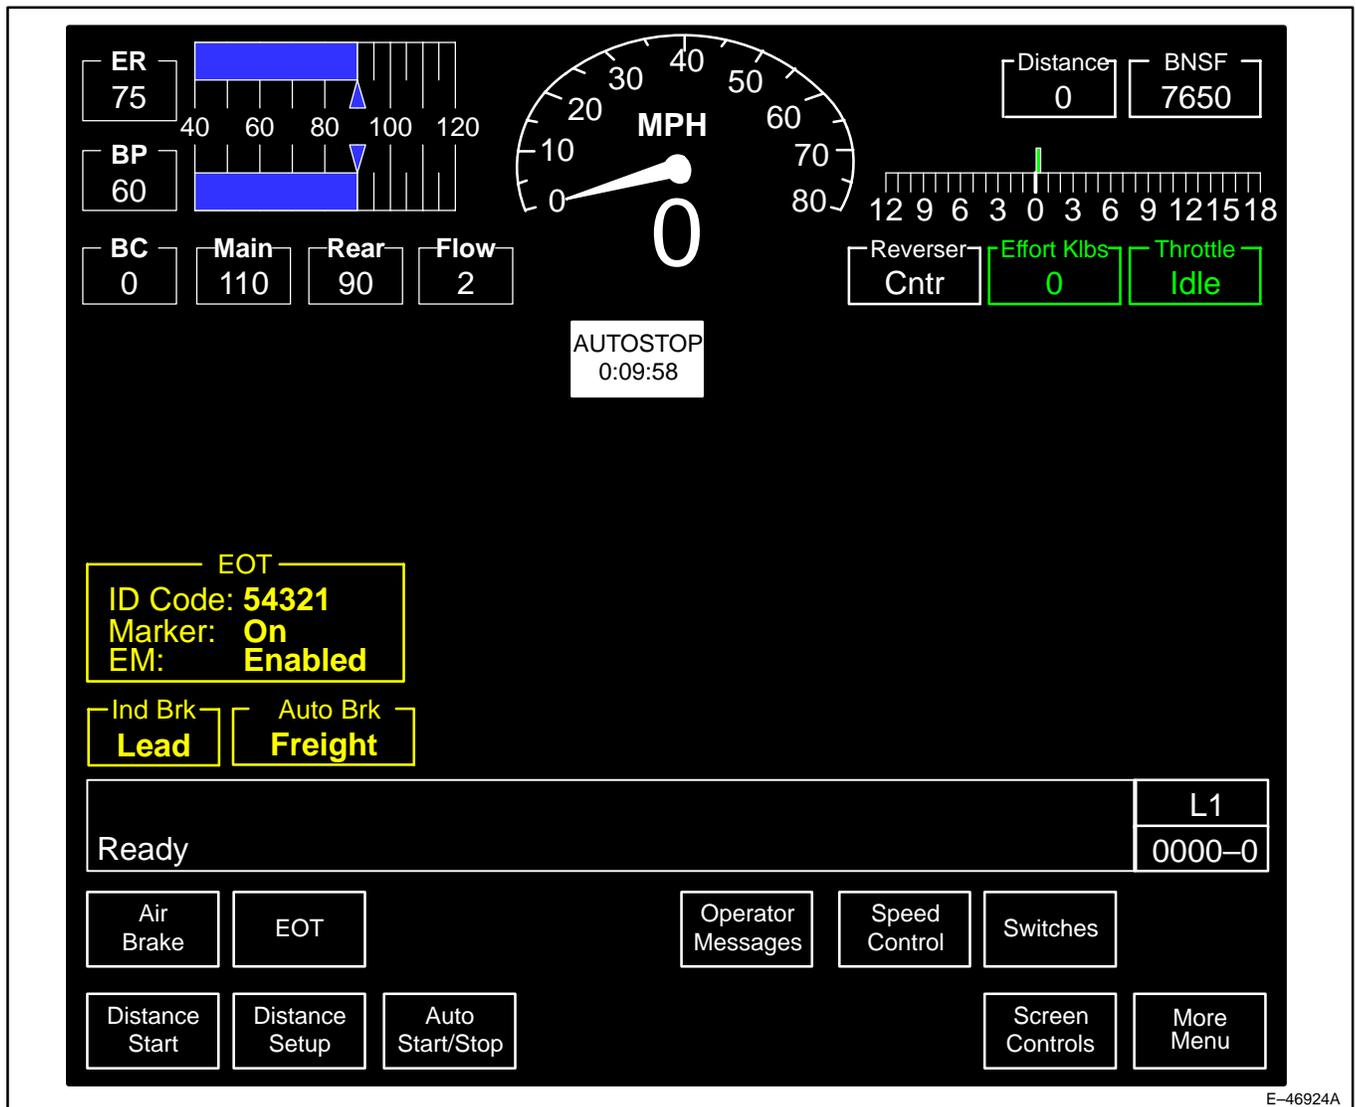

Figure 66. Main Operation Screen, AESS Active.
NOTE: *If AESS is active, the time to shut down is displayed in the alarm bar (ex: AUTOSTOP 0:09:58) (Figure 66).*
- When AESS is active, the Main Operation Screen will display as screen 0000-0 (Figure 66).
The AESS indicator will be illuminated whenever AESS is active. The current AESS system status is summarized by the indicator text (Figures 66 and 67).